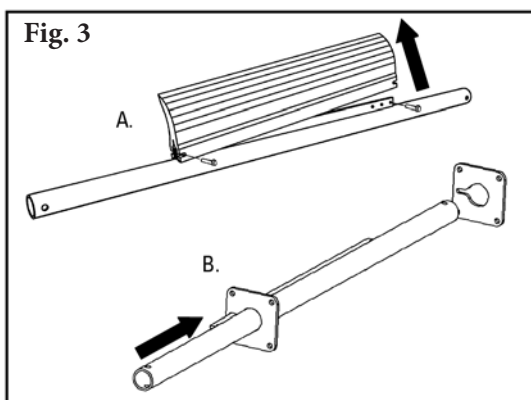

Fig. 3
4. **Install the pole.** Remove both blade pins and blade from the pole and insert the pole in through the mounting plates (Fig. 3).